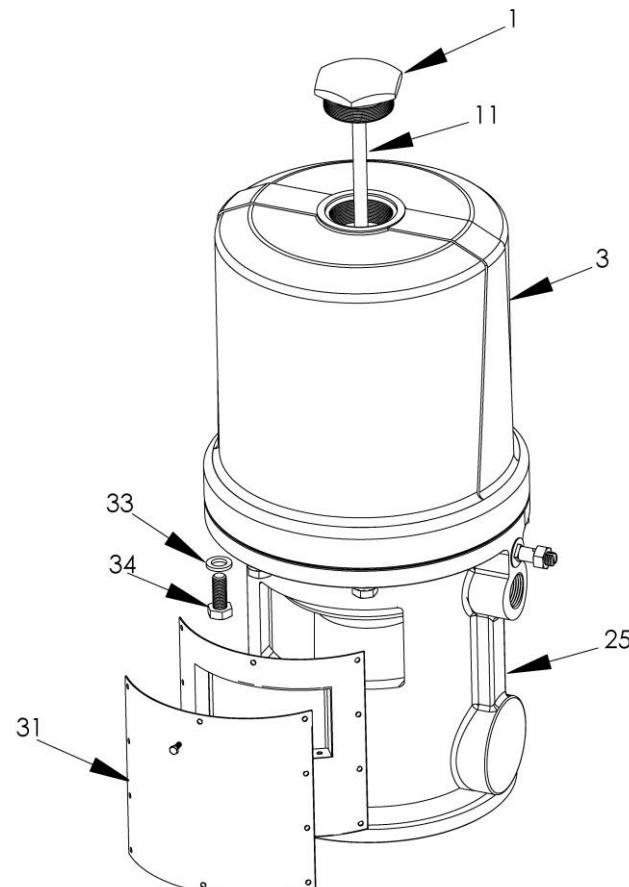

Fig. 5 _____
3. Manually push up on the piston rod to move the piston assembly to the top of its stroke. Unscrew the cylinder cap nut from the cylinder. Pull up on the cap nut. Grip the trip rod with padded and screw the cap nut off the trip rod. See Fig. 5.
4. Remove the eight screws holding the cylinder to the base. Carefully pull the cylinder *straight up* off the piston. See Fig. 5.